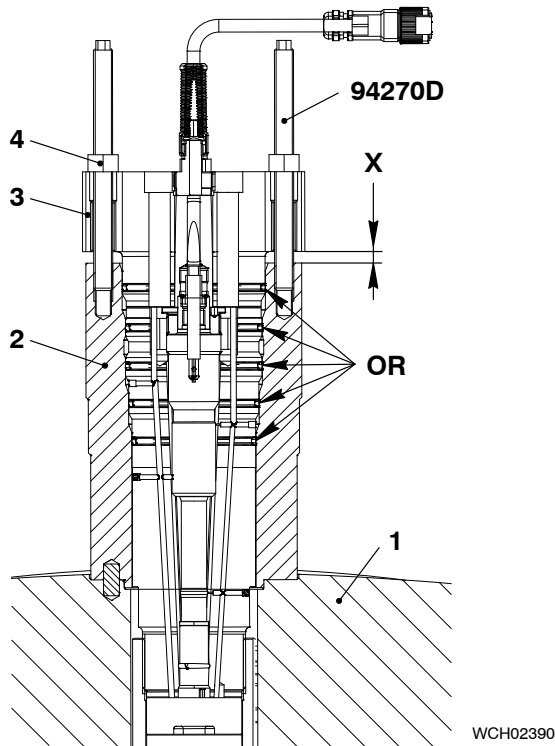

Fig. 3
- 1) Clean the sealing face of the cylinder cover (1, Fig 3).
- 3) Put oil on the five new O rings (OR).
- 5) Put the injection valve (3) carefully into the valve bush (2).
- 6) Put the two stud bolts (94270D) and nuts (4) in position as shown in Fig 3.
- 7) Turn equally the two nuts (4) to push the injection valve.